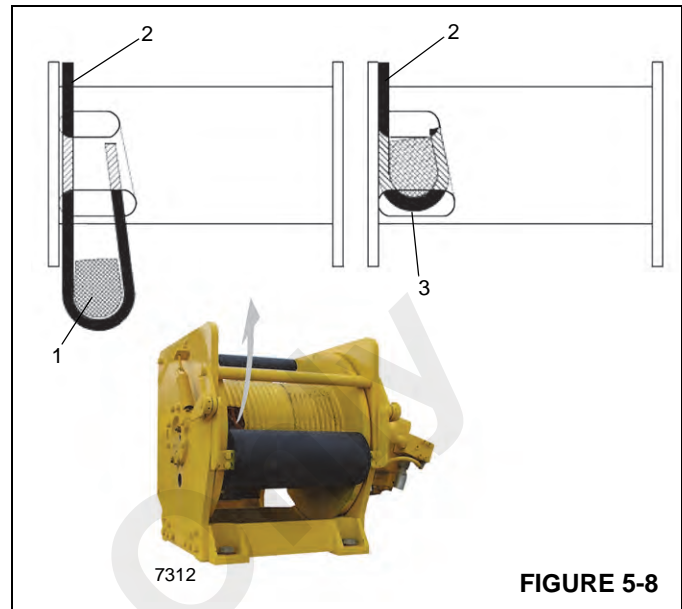

FIGURE 5-8
3. Insert the cable through the slot and position around the anchor wedge (1) Figure 5-8.